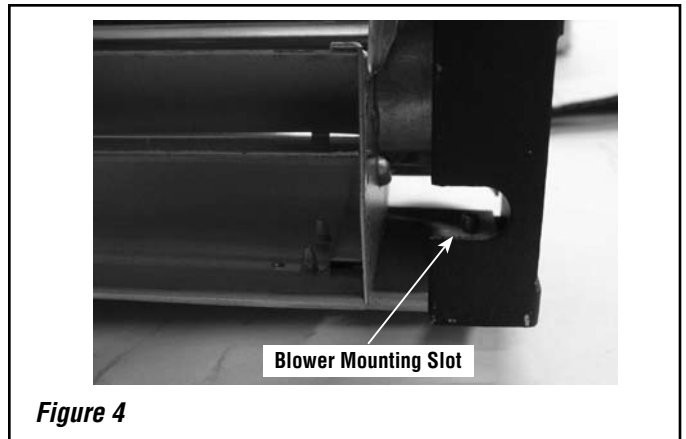

Figure 4
- Step 4.** Notice the corresponding slots on the rear of blower cage. See **Figure 4**.